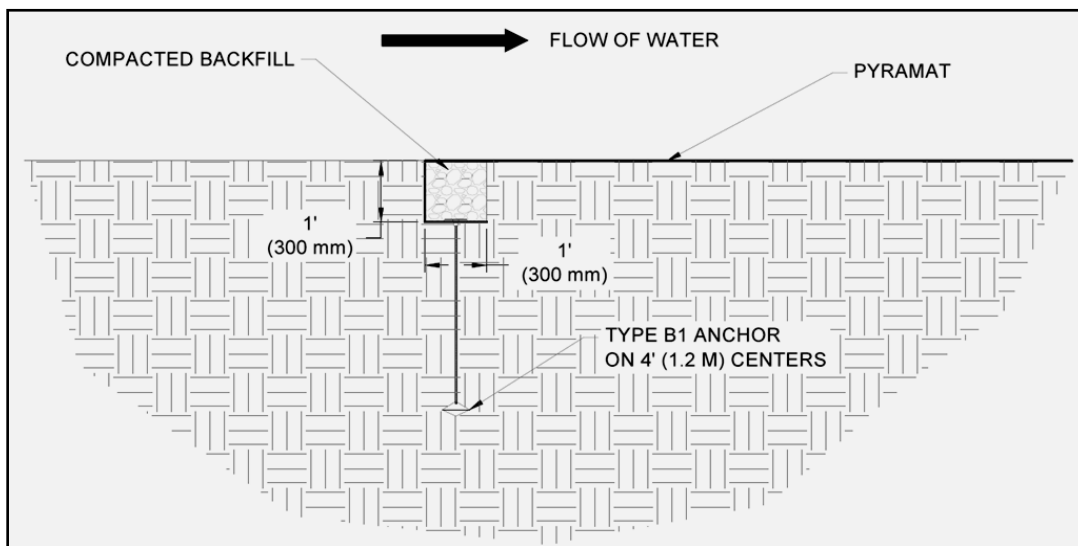

Figure 3: Terminal Channel (TC) Trench
5. Excavate a Terminal Channel (TC) trench a minimum of 12 in x 12 in (300 mm x 300 mm) across the channel at the upstream end of the project (Figure 3). Deeper TC trench and/or hard armoring may be required for channels that have the potential for scour.